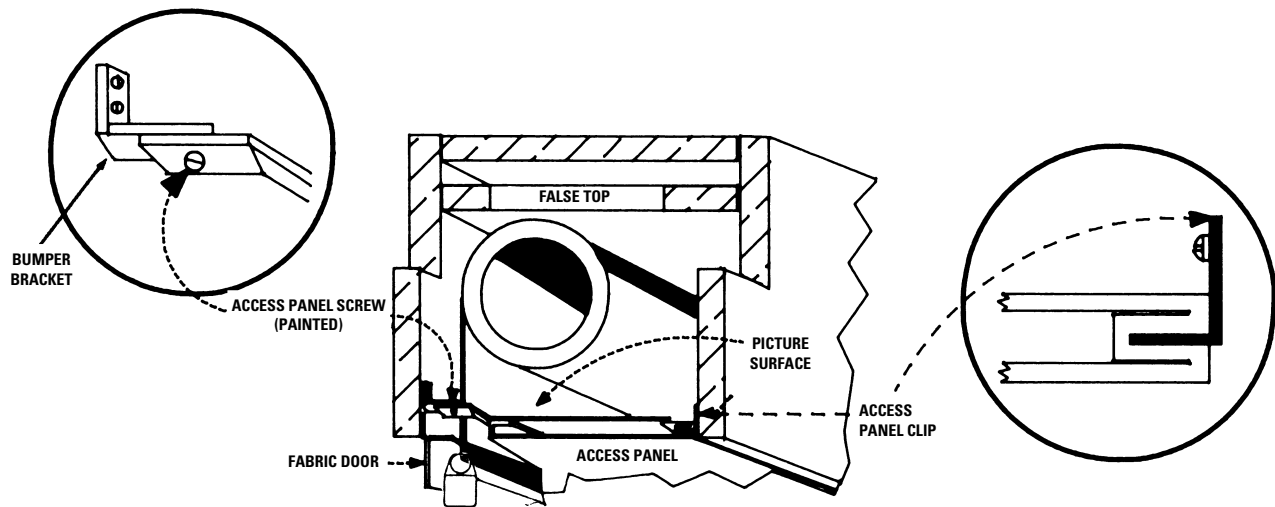

FIGURE 3
6. Picture surface should hang freely. (Fig. 3) Remove any tape left hanging on back of fabric. Bottom edge should be positioned between bottom edge of case and center of roller.
1. Press switch "down" so that fabric door opens (Fig. 3).
2. Remove screws (2) located on each bumper bracket.